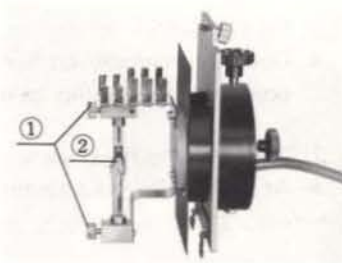

Fig. 1
- 2) Insert the lower electrode (marked "+") into the bottom terminal and tighten the clamping screws ① securely. (Fig. 1)